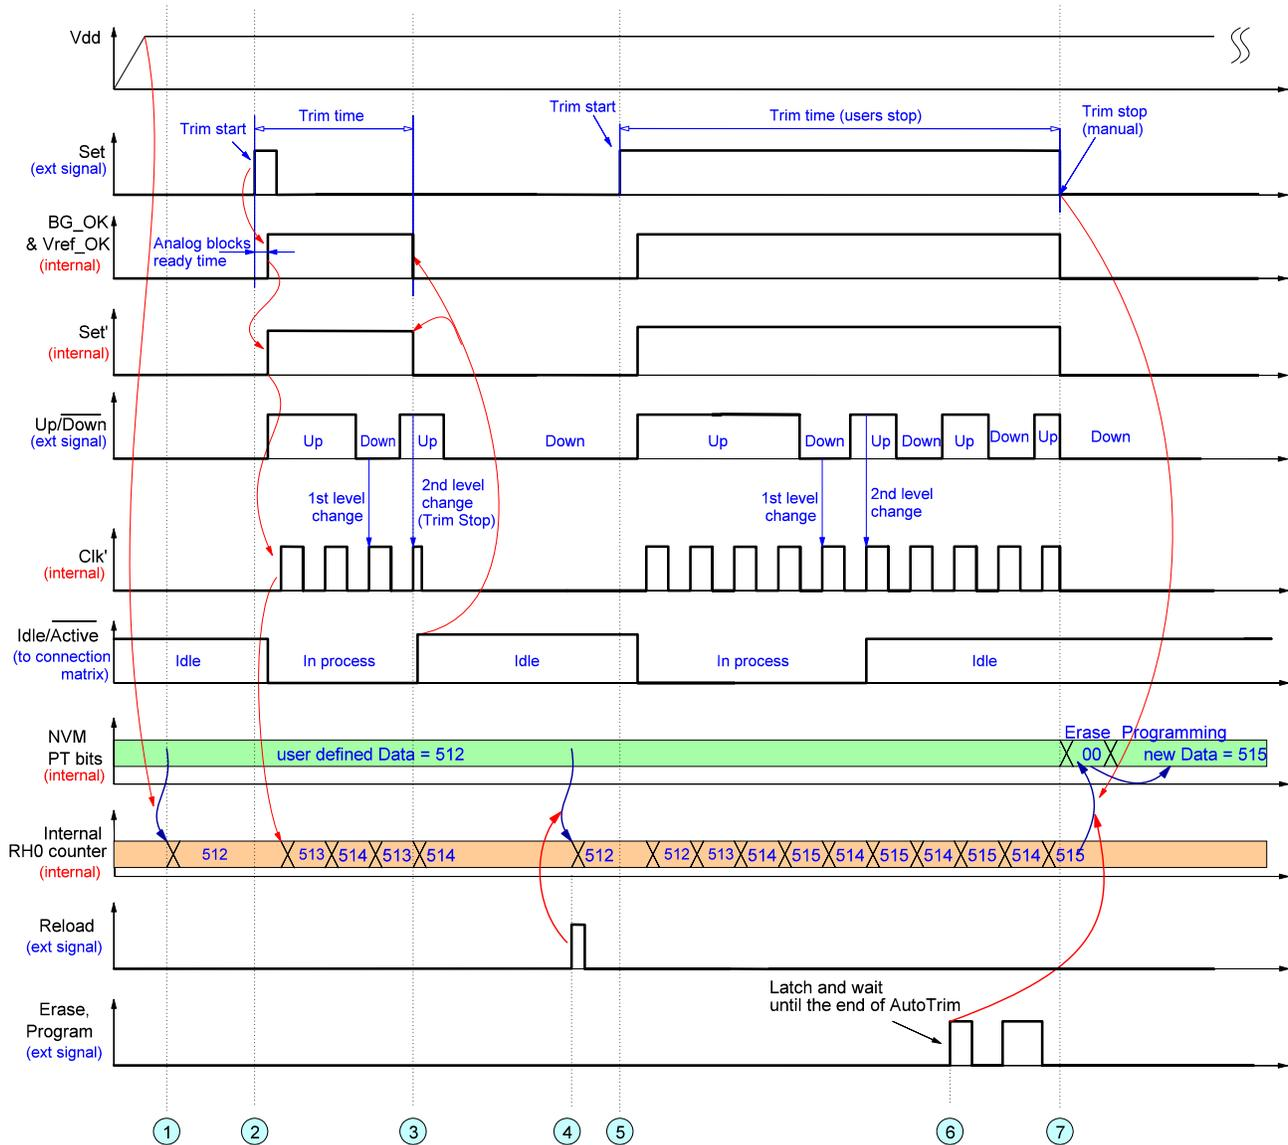
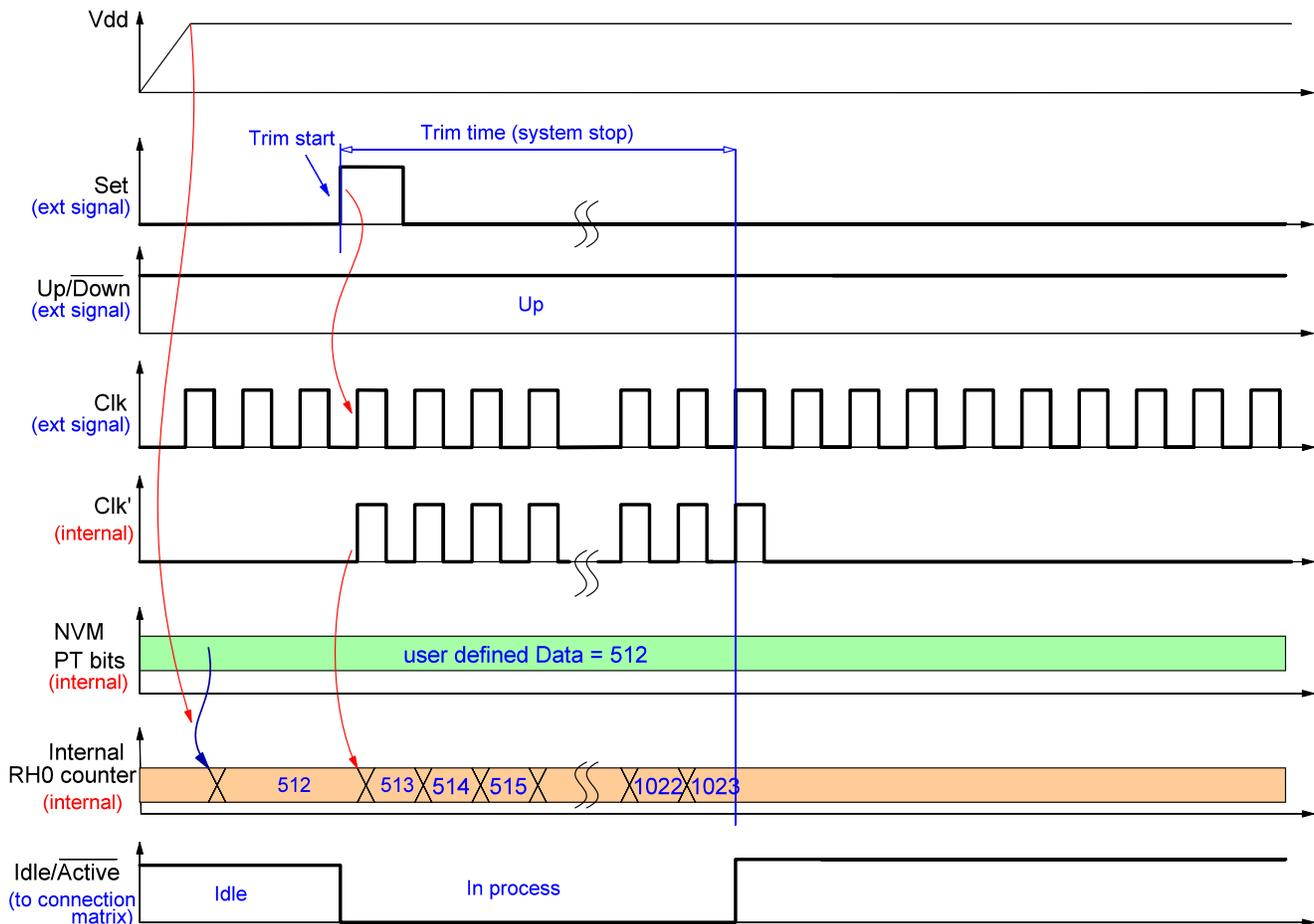
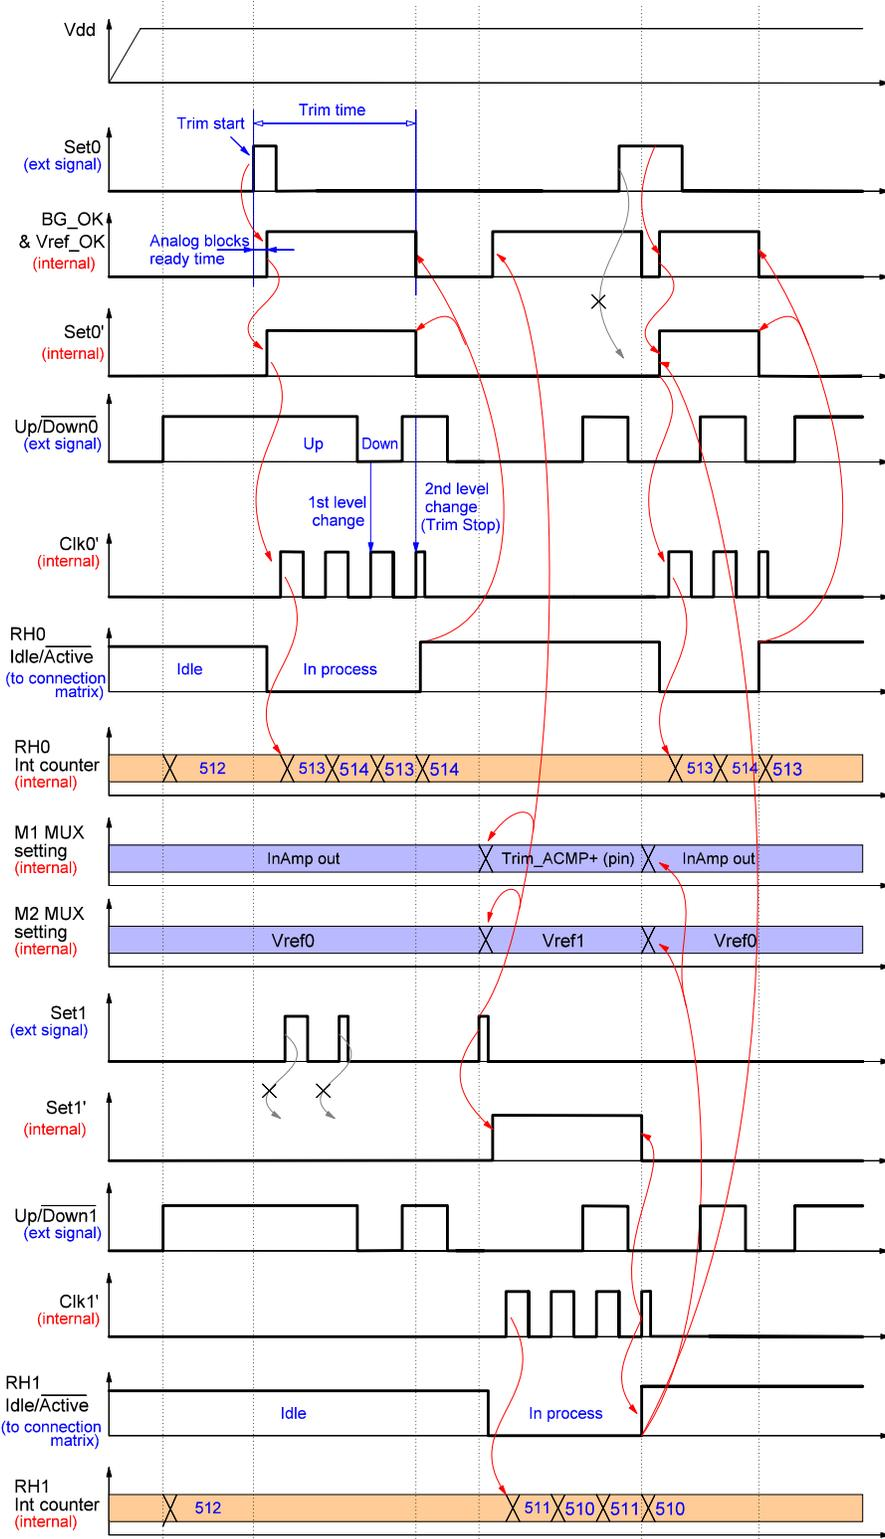

Figure 107: Example of Auto-Trim Process for a Single Rheostat
Figure 108: Example of Auto-Trim Process with External Clock Signal
Figure 109: Example of Auto-Trim Process for Two Rheostats
- 1) 2nd time change on Up/Down input at the moment of rising edge on Clock input (see Figure 107).
- 3) the value of rheostat reaches its minimum (0).
The detailed flow of Auto-Trim process is shown in Figure 107, Figure 108, Figure 109.
The key events of the Auto-Trim process are the following (see Figure 107):
If the Set input signal is shorter than the trim time, the Auto-Trim process stops automatically after a stop condition occurs (event 3, Figure 107). However, if a stop condition comes and High logic level holds on the Set input, the rheostat value will be switched near the set point until a Low level on the Set input occurs (event 7, Figure 107). Note that the Idle/Active signal changes its level to High (Auto-Trim is done) even if the user keeps a High logic level at the Set input.
Figure 108 shows a similar Auto-Trim example. The only difference is that the user defined clock source as “External clock” from connection matrix. The clock pulses are present at the Clock input all the time, but have effect (rheostat value changes) during Trim time only. The stop condition for this case is the following: PT block reaches boundary value of 1023 and the logic level at change Set input is Low.
Figure 109 shows Auto-Trim process flow for two rheostats.